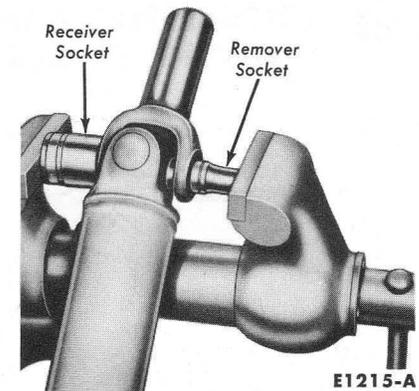

FIG. 4—U-Joint Removal
5. Place the sockets at opposite bearings so that the smaller socket becomes a bearing driver and the larger socket becomes a bearing receiver, when the vise jaws come together (Fig. 4).